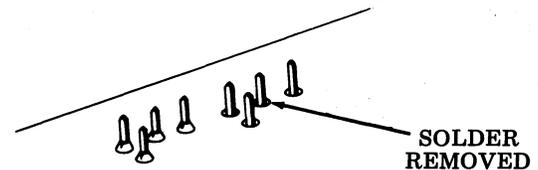

Fig. 14—Solder Removal
- (c) Remove solder from around terminal pins of keyswitch to be removed (Fig. 14).